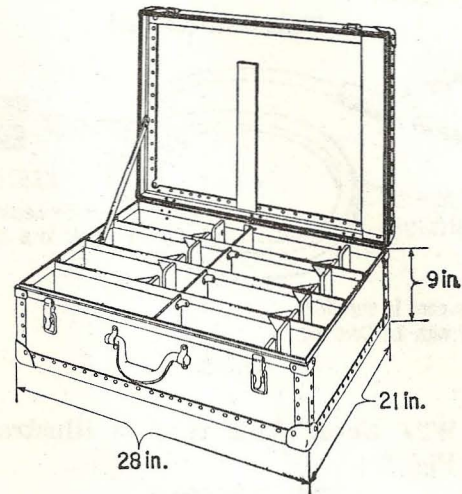

Fig. 13
- 4.11** The cords of a cord kit are supplied in the KS-16362 Case illustrated in Fig. 13.